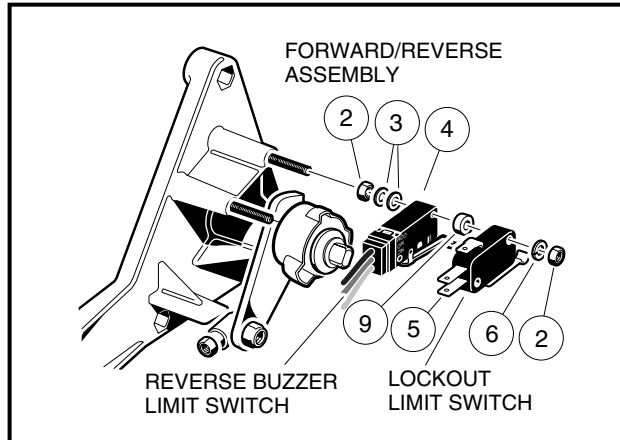

Figure 12-21 Lockout Cam and Reverse Buzzer Limit Switches
3. Disconnect the wires from the lockout cam limit switch (5) located on the back of the Forward/Reverse shifter assembly (**Figure 12-21, Page 12-18**).
4. Remove two nuts (2) and washers (6) from the lockout cam limit switch (5) and slide the lockout cam limit switch off of the screws.
1. Install the limit switch (5) with washers (6) and nuts (2) and tighten to 5 in-lb (0.6 N·m) (**Figure 12-21, Page 12-18**). Place the Forward/Reverse handle in REVERSE to make sure that both switches actuate. See following **CAUTION**.
3. Disconnect the wires from the reverse buzzer limit switch (4) located on the back of the Forward/Reverse assembly (**Figure 12-21, Page 12-18**).
4. Remove the nuts (2) and washers (6) from the lockout cam limit switch (5) and slide the lockout cam limit switch off of the screws. Do not disconnect the wires.
5. Remove the spacers (9) from the reverse buzzer limit switch (4) and slide the reverse buzzer limit switch off the screws.
1. Install the reverse buzzer limit switch (4), and then install two spacers (9) against the limit switch.
2. Install the lockout cam limit switch (5) with two washers (6) and two nuts (2), and tighten to 5 in-lb (0.6 N·m). **See following CAUTION.**
4. Connect the orange wire to the black wire (COM) terminal and the red/white wire to the blue wire, normally open (NO) terminal of the reverse buzzer limit switch (4) (**Figure 12-21, Page 12-18**).